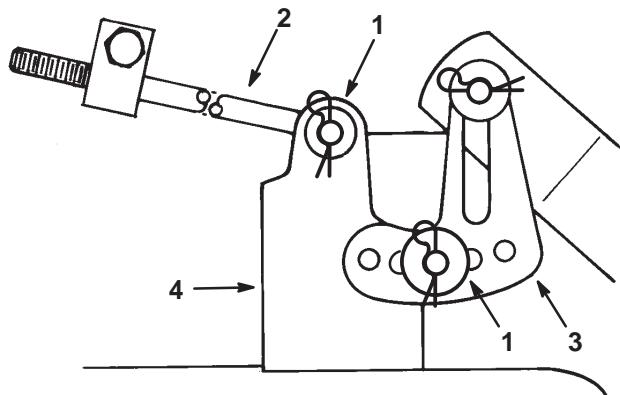

Figure 41
10. Remove the hairpin cotter and washer from the end of the long rod (Fig. 41). Slide the rod out of the mower mount. Repeat this step on the opposite side of the mower.
11. Remove the hairpin cotter and washer at the mower leveling bracket (Fig. 41). Slide the bracket off of the mounting pin. Install the washer and hairpin cotter for storage.